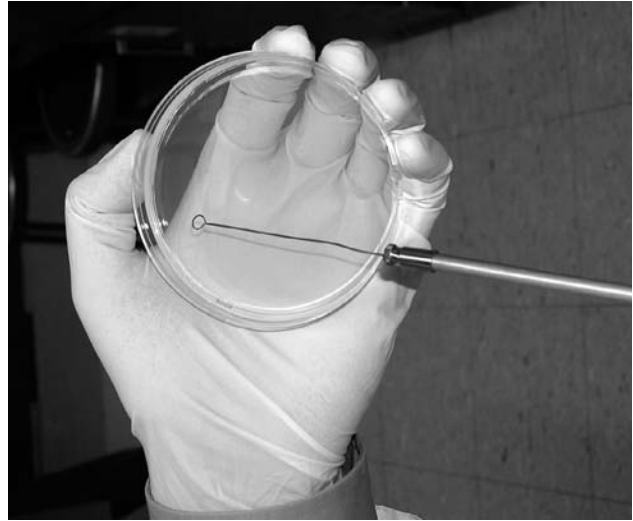

FIG. 2.5.
4. Gently draw the loop across the surface of the agar in a zigzag pattern in such a way as to avoid overlapping the previous streak. With practice, you will be able to accomplish this without tearing into the agar. By holding the plate so that light is shining off the agar, you can determine the exact position of the loop. (See Fig. 2.5)